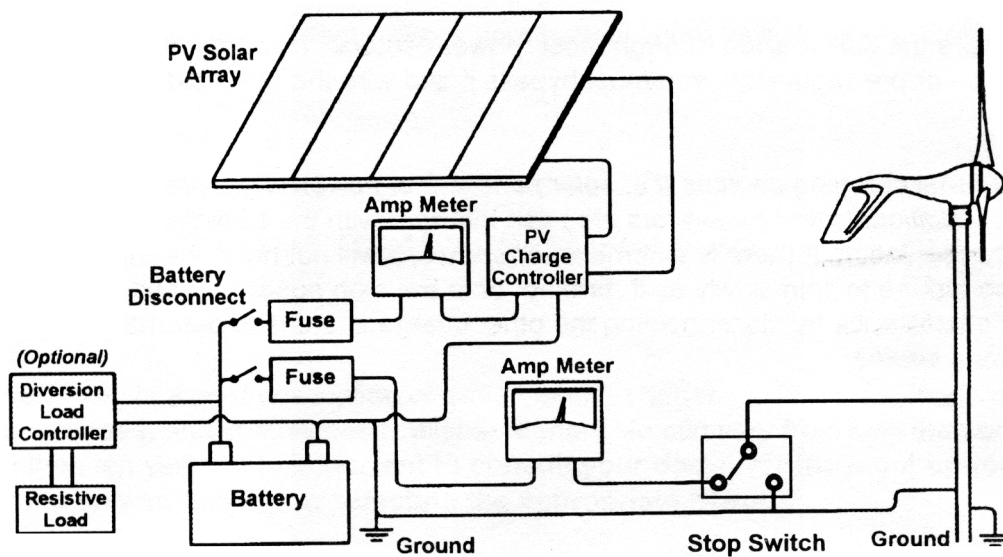

Figure 4
12) Run all wires from the turbine to the battery (do not connect wires to the battery). Be sure to crimp and solder the connections using the appropriate sized connectors. If you plan to connect an amp meter into your system, see Figure 4, on page 14.